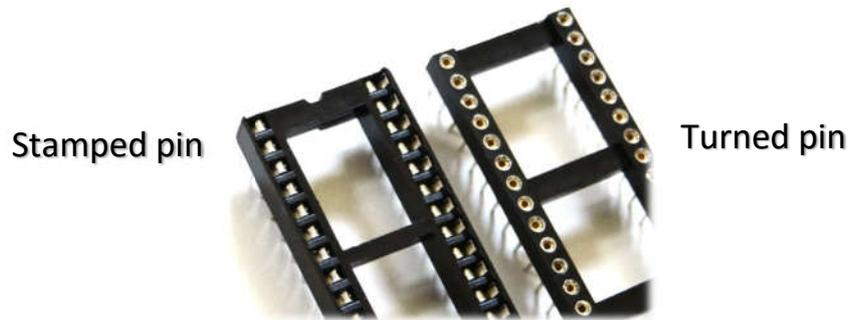

Fig.1 – Acceptable socket types
- b. If socketed, then check if the socket is of the correct type (see Fig.1 above). If not then install a new socket of the correct type.